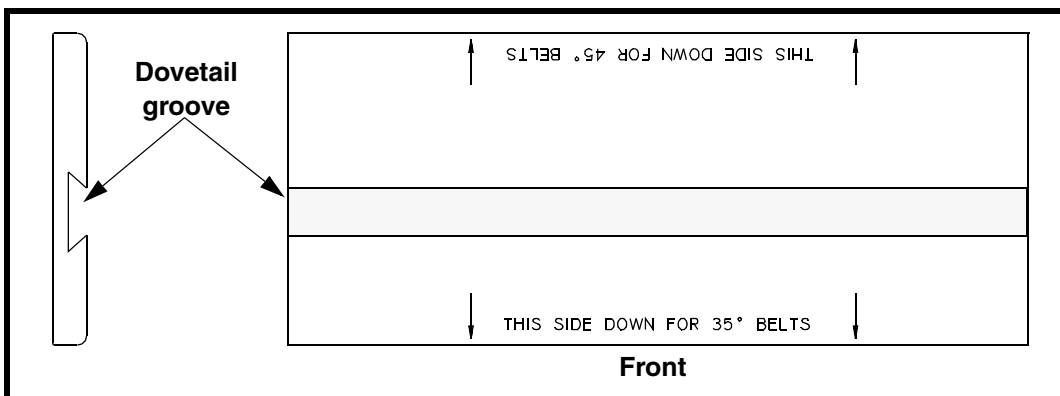

Figure 2. Urethane Primary Seal
- a. Lay primary seal on flat surface with dovetail grooved side facing up and correct belt angle on bottom (see Figure 2).